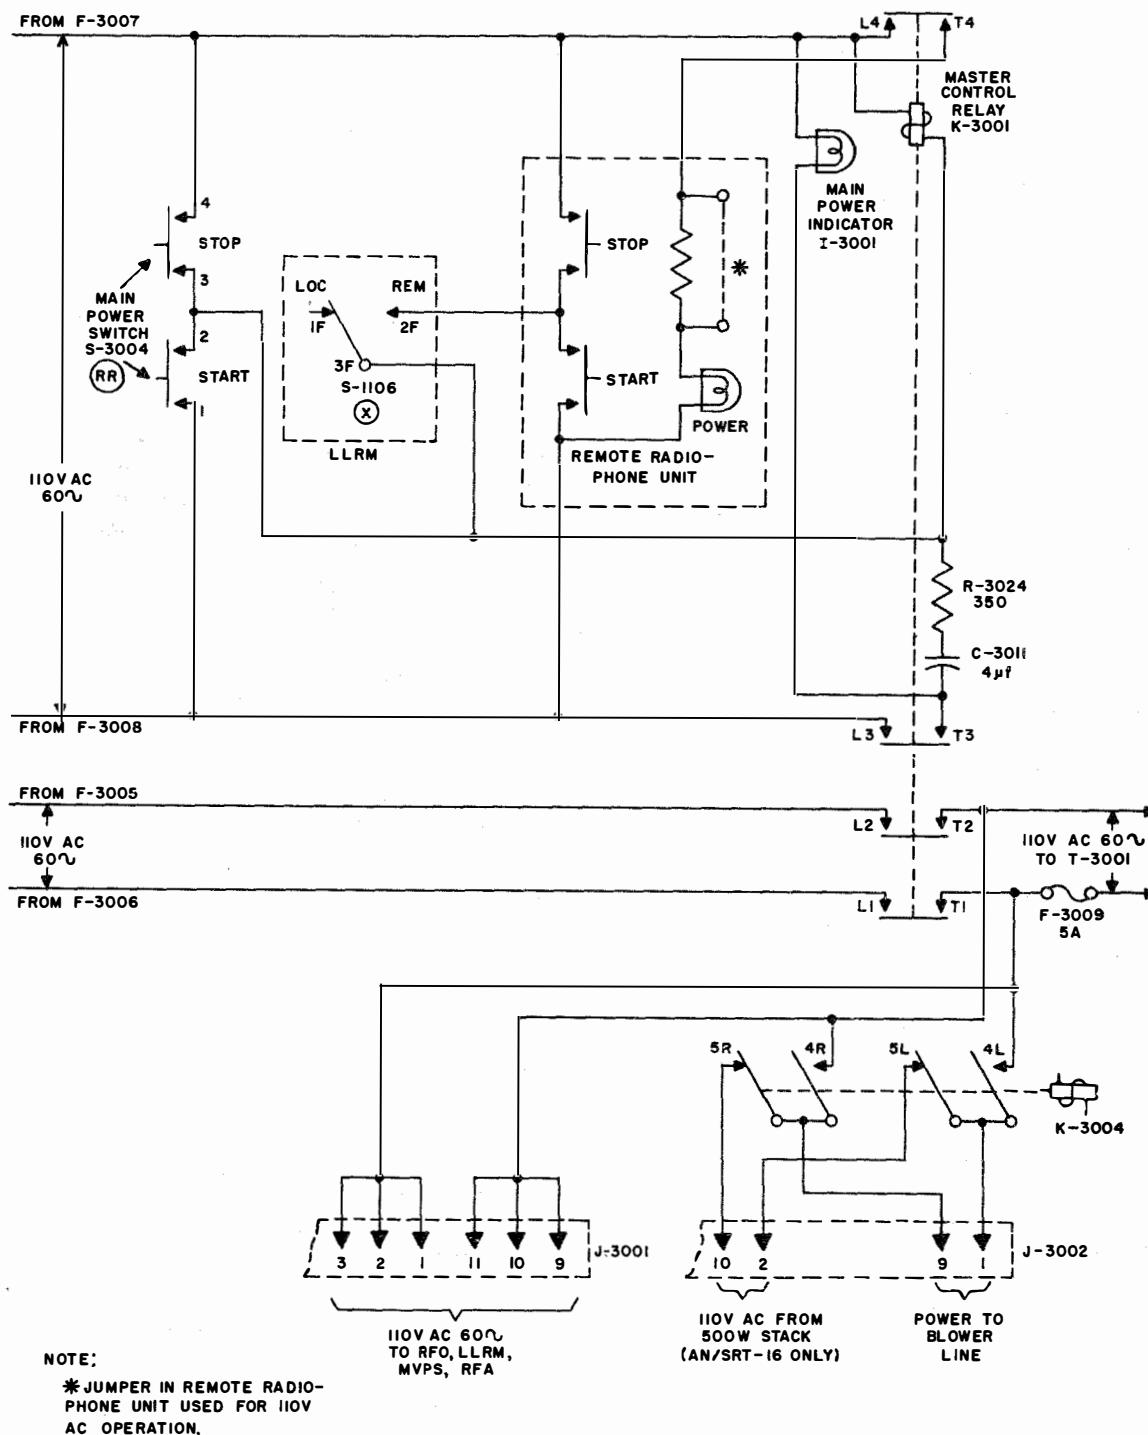

Figure 2-56. Start-Stop Circuit, Simplified Schematic
c. START-STOP CIRCUIT.—The start-stop circuit (figure 2-56) in the LVPS controls power to the transmitter bay. When EMERGENCY SWITCH (Ⓜ) S-3001 is closed, power is applied throughout the transmitter bay by depressing the START push button on the MAIN POWER switch (Ⓡ), S-3004. The master control relay, K-3001, is connected across the line through the closed contacts of the START push button and through the